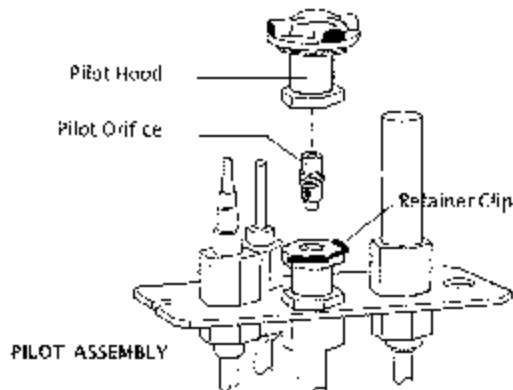

Figure 13. Pilot Orifice replacement.
- FROM WITHIN THE FIREBOX, disengage the Pilot Hood by releasing the retainer clip as shown in Fig. 13. Using a 4 mm allen wrench, unscrew the pilot orifice (counter clockwise). Replace with the appropriate orifice: